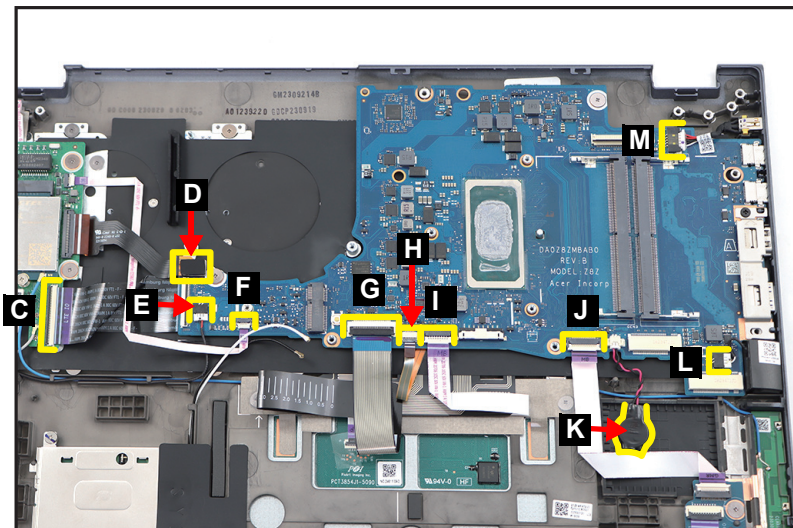

Figure 1-55. Mainboard Removal
2. Disconnect the LTE board FFC from the LTE board connector (C) (Figure 1-55).
3. Disconnect the LTE board FPC from the mainboard connector (D) (Figure 1-55).
4. Disconnect the right speaker cable from the mainboard connector (E) (Figure 1-55).
5. Disconnect the P-sensor FFC from the mainboard connector (F) (Figure 1-55).
6. Disconnect the keyboard FPC from the mainboard connector (G) (Figure 1-55).
7. Disconnect the keyboard backlight FPC from the mainboard connector (H) (Figure 1-55).
8. Disconnect the touchpad FFC from the mainboard connector (I) (Figure 1-55).
9. Disconnect the LED board FFC from the mainboard connector (J) (Figure 1-55).
10. Pry to detach the adhesive tape underneath the RTC battery (K) (Figure 1-55).
11. Disconnect the left speaker cable from the mainboard connector (L) (Figure 1-55).
12. Disconnect the DC-IN cable from the mainboard connector (M) (Figure 1-55).